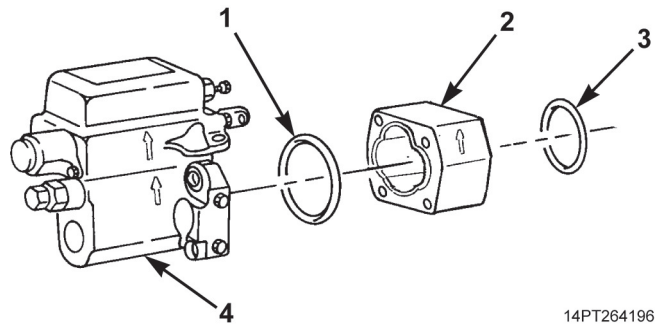

Figure 5. Gear Housing Removal.
9. Remove gear housing (Figure 5, Item 2) from pump housing (Figure 5, Item 4). Remove two gasket seals (Figure 5, Items 1 and 3) from gear housing. Discard gasket seals.